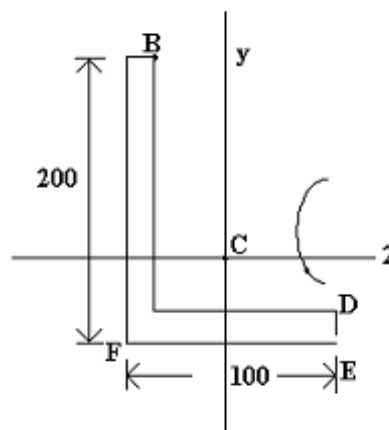

Figure 3
3. Using the general equation for elastic bending stress find the stresses at points B and F for the angle section shown in figure 3. The applied moment is  $M_z = 10$  kNm